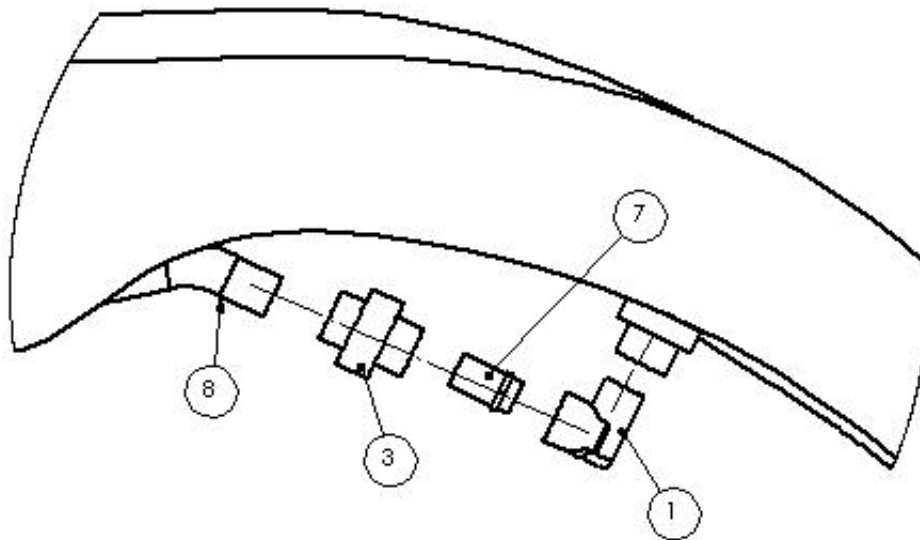

Figure 9
- 12) Apply a small amount of silicon sealant to the male thread side of the (#1) PVC 90° Elbow. Thread the elbow into the fitting in the bottom of the slide as shown below. Tighten until the elbow is snug and in the orientation shown in Figure 9.